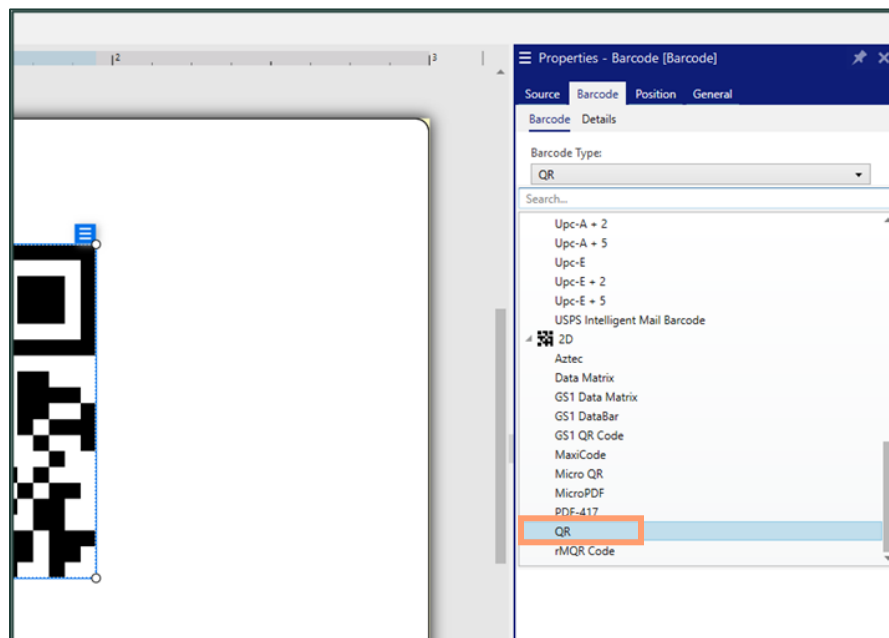

Figure 23: Barcode Window with Label Preview
17. Add your “Barcode” object to your label and set the Barcode type to QR Code – see figure 23.